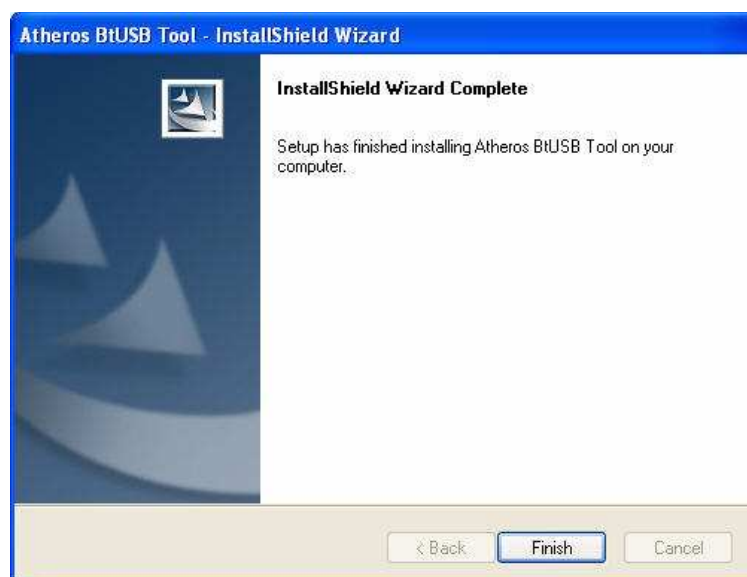

Figure 1-4. InstallShield Wizard Complete
- Click Next. It starts copying the necessary files. When done, the InstallShield Wizard Complete screen is displayed. See Figure 1-4.